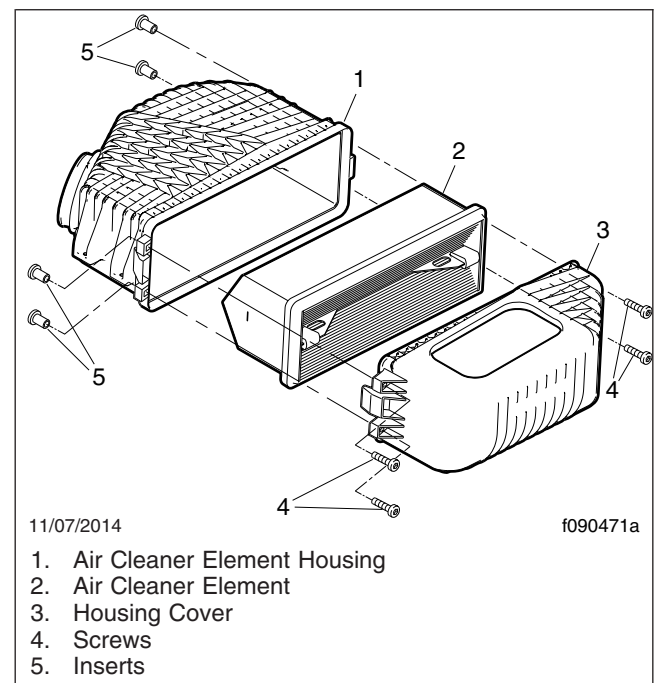

Fig. 3, Air Cleaner Assembly
3. Check the inserts at all four assembly fastener locations (see Fig. 3). Each insert should protrude from the housing as shown in Fig. 4.